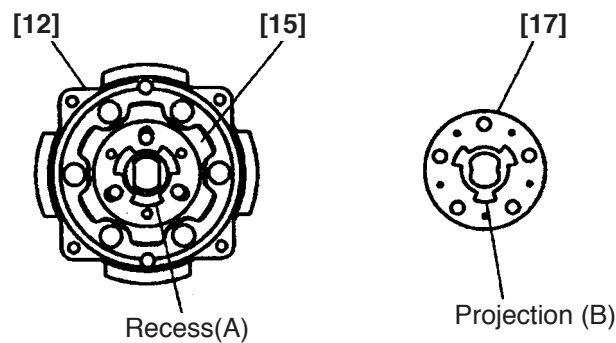

Fig. 10
- ③ When installing the Carrier [17], assemble so that recess (A) on the Lock Ring [15] is aligned with projection (B) on the Carrier [17] (be careful of the direction). Then make sure that the flat plane of the spindle faces the flat plane of the Carrier [17]. If assembled in wrong direction, the flat plane of the spindle may be stopped at the position about 2 mm lower than the flat plane of the Carrier [17] (see Figs. 10 and 11).